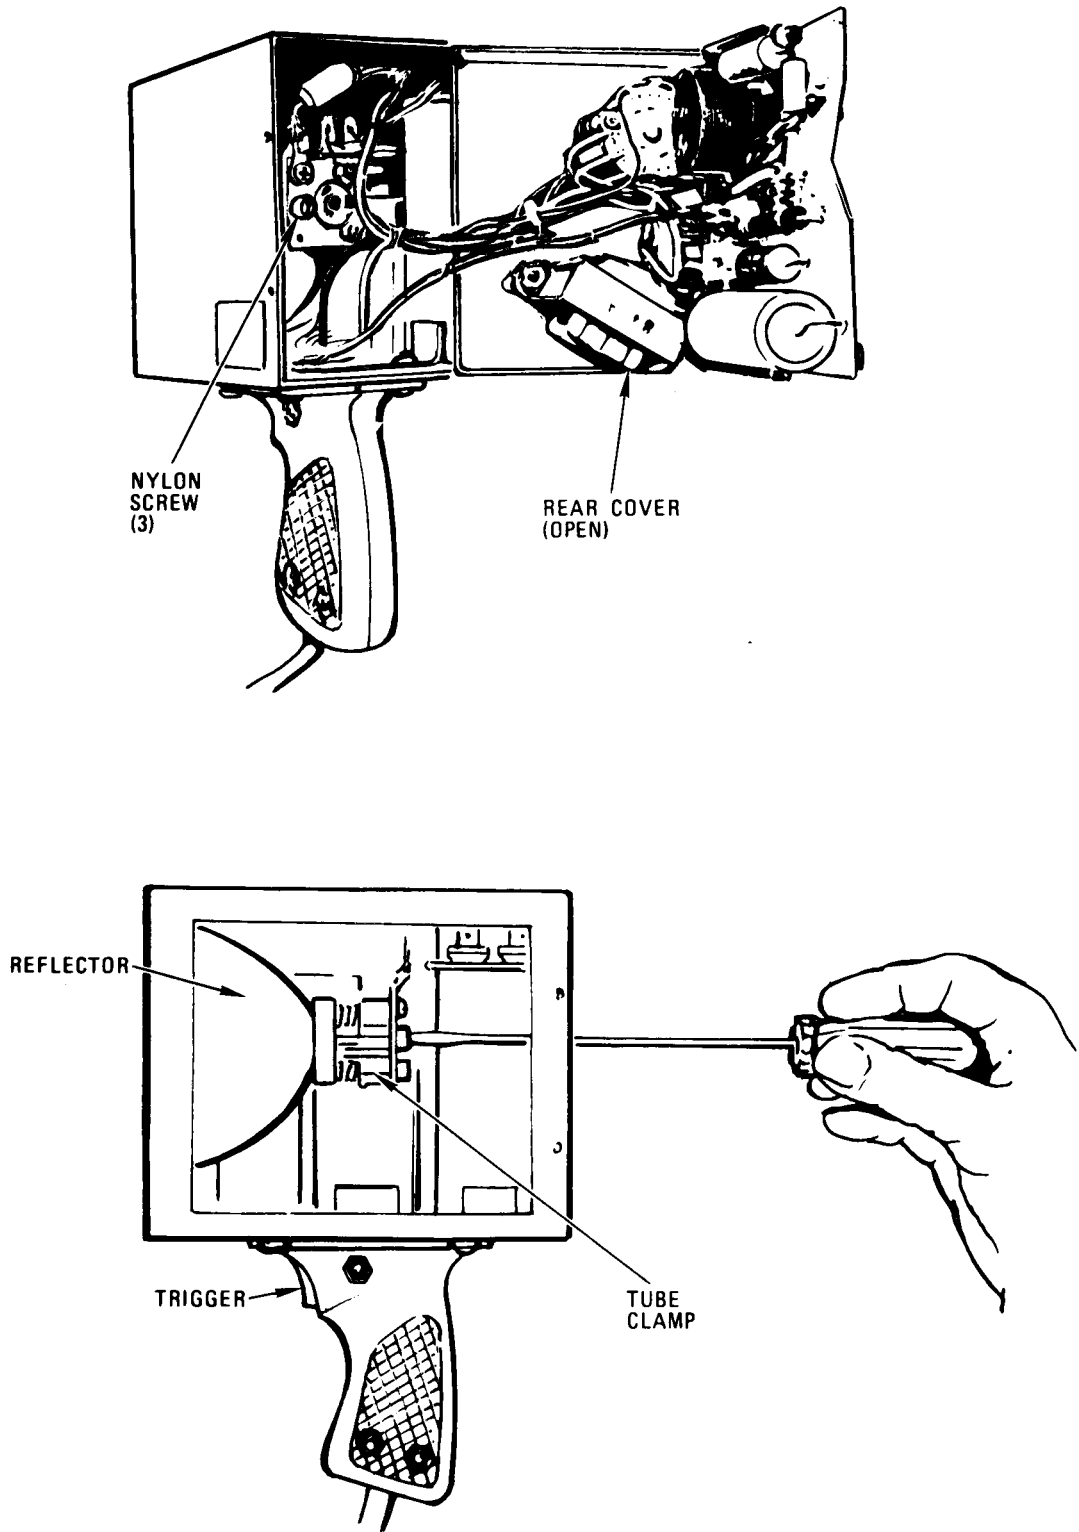

Figure 3-8. Strobex Focus Adjustment
(5) Direct lamp at ground and observe a bright 3 to 4 inch diameter spot of light or at a nearby (10 to 20 feet) flat surface and observe a bright 10- to 15- inch diameter spot of light. If the spot of light is not as required., pm-form the following focus instructions:
- (b) Open rear cover (fig. 3-8).